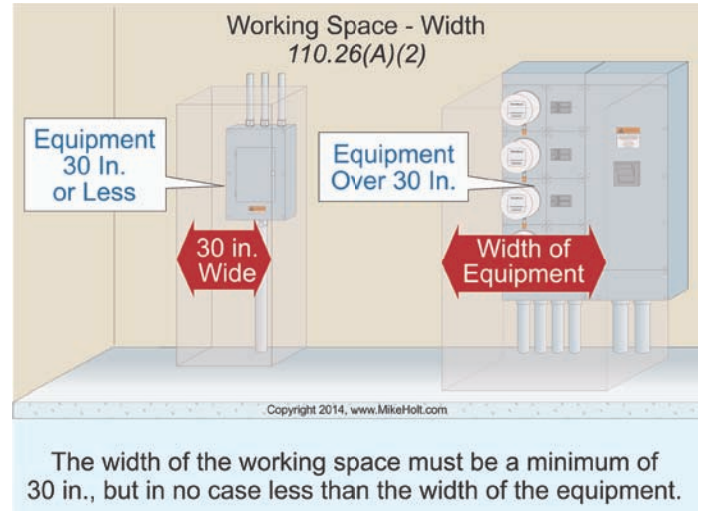

Figure 110-13
**(2) Width of Working Space.** The width of the working space must be a minimum of 30 in., but in no case less than the width of the equipment. **Figure 110-13**